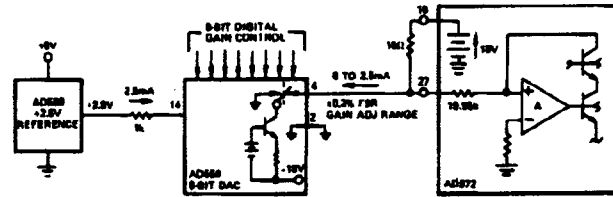

Figure 11. Digital Gain Control Using 8-Bit DAC
**Digital Gain Control:** Figure 11 shows a method of varying the AD572 gain digitally, using an 8-bit DAC. The 100 Ω GAIN ADJ potentiometer is replaced by a 15 Ω fixed resistor. This biases full-scale high by approximately  $35 \Omega / 20,000 \Omega = +0.18\%$  of FSR. The AD559 has a large positive compliance voltage which permits its current out Pin 4 to be connected directly to the AD572 reference input Pin 27. The AD559 2.5 mA output current is established by the AD580 +2.5 V voltage reference connected through a 1 kΩ resistor to reference current input Pin 14. The 2.5 mA DAC full-scale output current removed from the AD572 Pin 27 node changes the Pin 27 input current  $-2.5 \text{ mA} \times 15 \Omega / 20 \text{ k}\Omega = -1.88 \mu\text{A}$ , or  $-0.38\%$  of FSR; this permits a digital gain adjustment range of approximately  $\pm 0.2\%$  FSR from nominal.